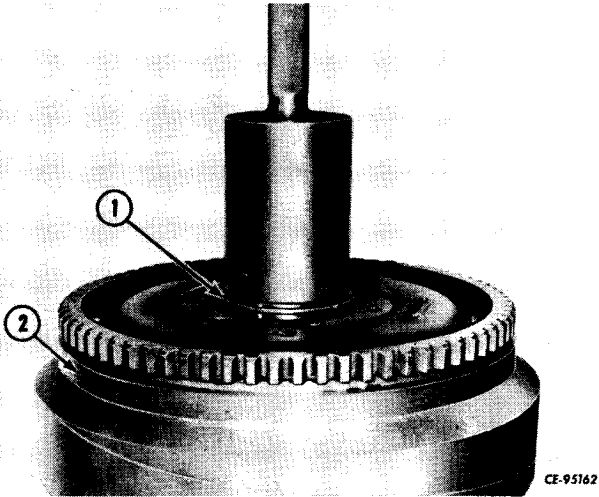

Figure 3-35
Press bearing and snap ring assembly (1, Fig. 3-35) into center bore of rotating housing (2). Be sure snap ring bottoms on housing shoulder about its entire circumference. During pressing operation, pressure must be applied to outer bearing race only.